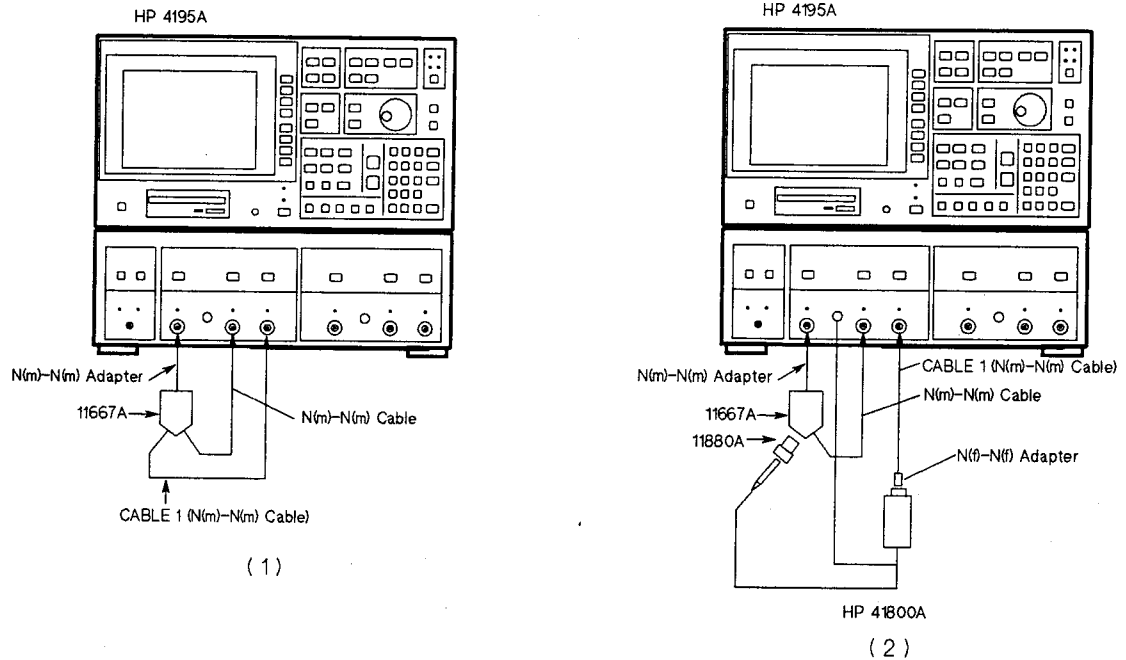

Figure 5-1. LF Gain/Flatness Adjustment Setup
1. Connect the power splitter to the HP 4195A as shown in Figure 5-1 (1).
5. Disconnect CABLE 1 (see Figure 5-1 (1)) from the power splitter, and connect the HP 41800A between the power splitter and CABLE 1 as shown in Figure 5-1 (2).